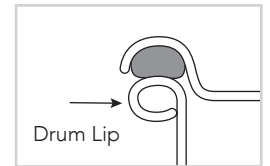

Figure 2
- PLACE COVER ON DRUM:** Be careful to properly seat gasket all around the lip (see figure 2).